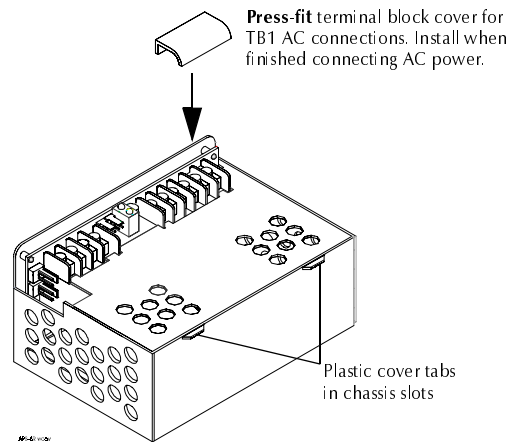

Figure 4 APS-6RF with the Plastic Cover
Before field wiring, install the APS-6RF cover (Figure 4 on page 7). When finished field wiring, install the press-fit terminal block cover (Figure 4 on page 7) over TB1.
Installing the Plastic Cover	Figure 4 on page 7
4. Install the APS-6RF plastic cover (Figure 4 on page 7) and the press-fit terminal block cover over TB1 AC connections.
5. Install the APS-6RF plastic cover (Figure 4 on page 7) and the press-fit terminal block cover over TB1 AC connections.
1. Insert the tabs into the slots on the APS-6RF chassis (Figure 4).
2. Snap the plastic cover into place as shown in Figure 4.